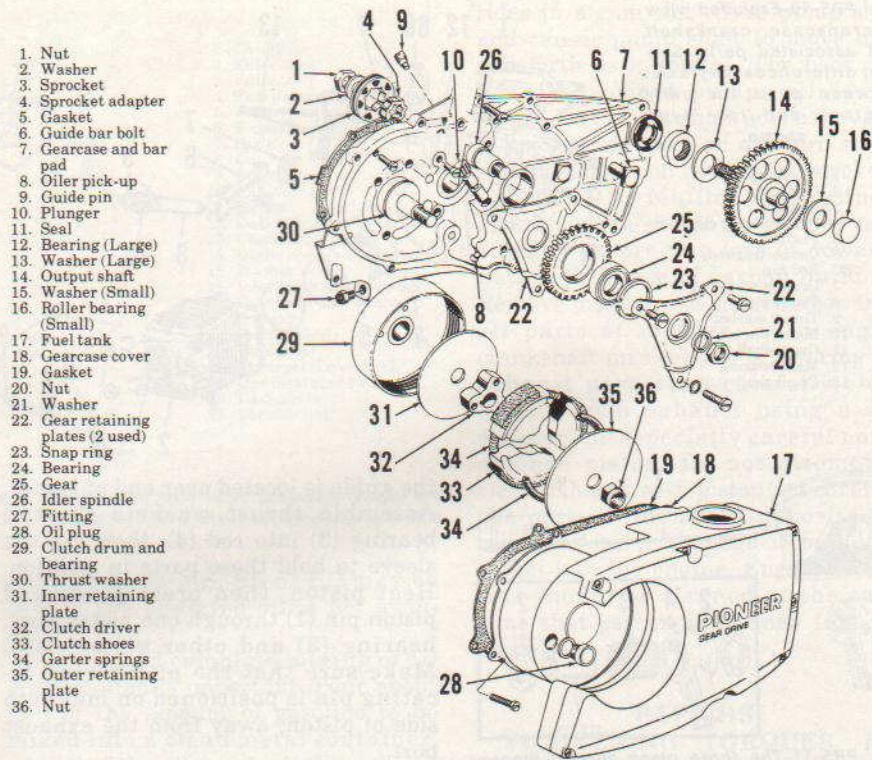

Fig. PR5-16—Exploded view of gearcase and clutch assembly typical of 1520 and 1560 models. Automatic chain oiler (parts 8, 9 & 10) is not used on all models.
**CLUTCH AND GEARBOX.** The clutch used on gear drive models is contained in the gearcase. It is necessary to remove the gearcase cover (18—Fig. PR5-16) in order to service the clutch, gears, shafts or bearings. Remove the handlebar, saw chain, guide bar, fuel tank (17), then remove screws and cover (18). A puller should be used to remove clutch driver (32) from the crankshaft. Idler spindle (26) should be tight fit in gearcase bore. The gearcase should be heated before removing or installing idler spindle.